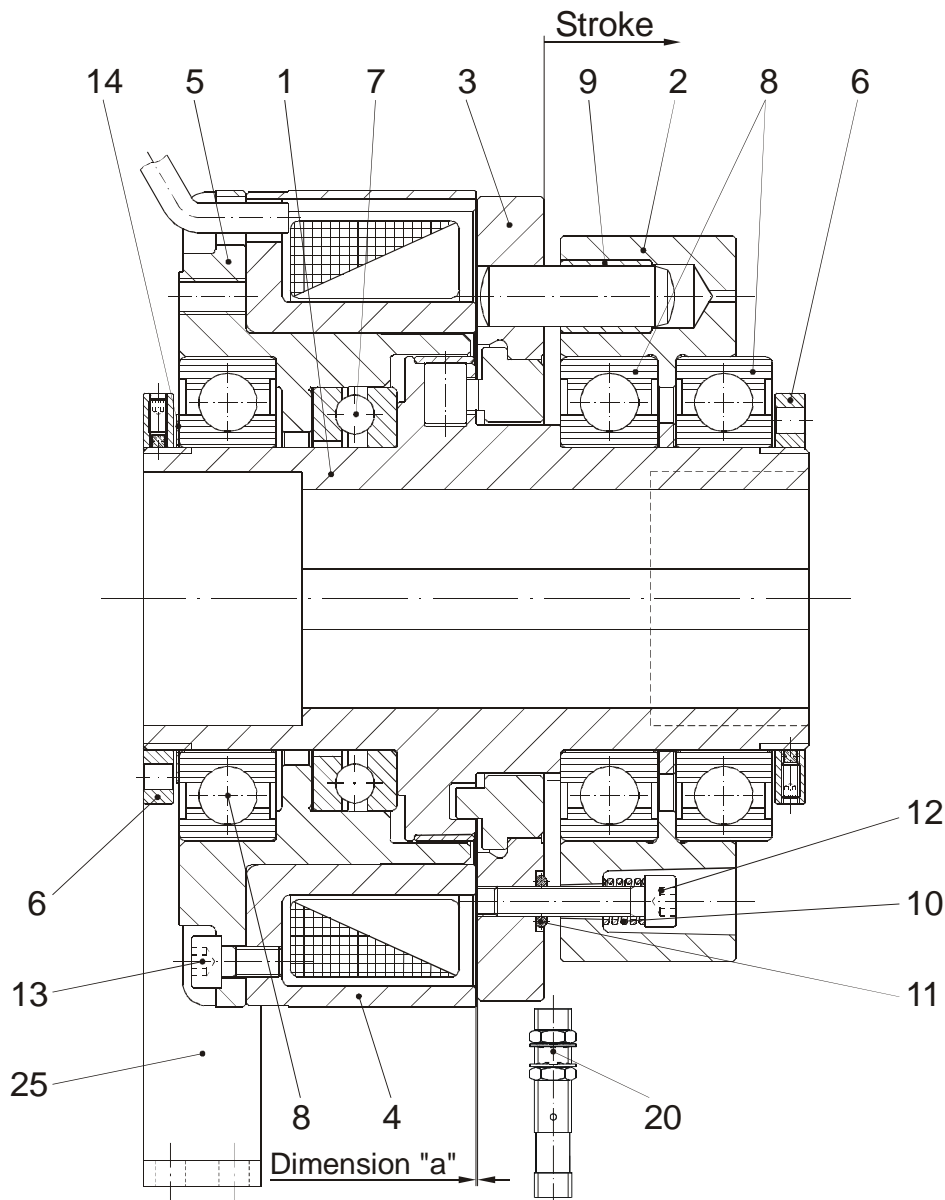

Fig. 1
Two threaded holes (Fig. 1) are located on the outer diameter of the bearing flange (5) for friction support securement.